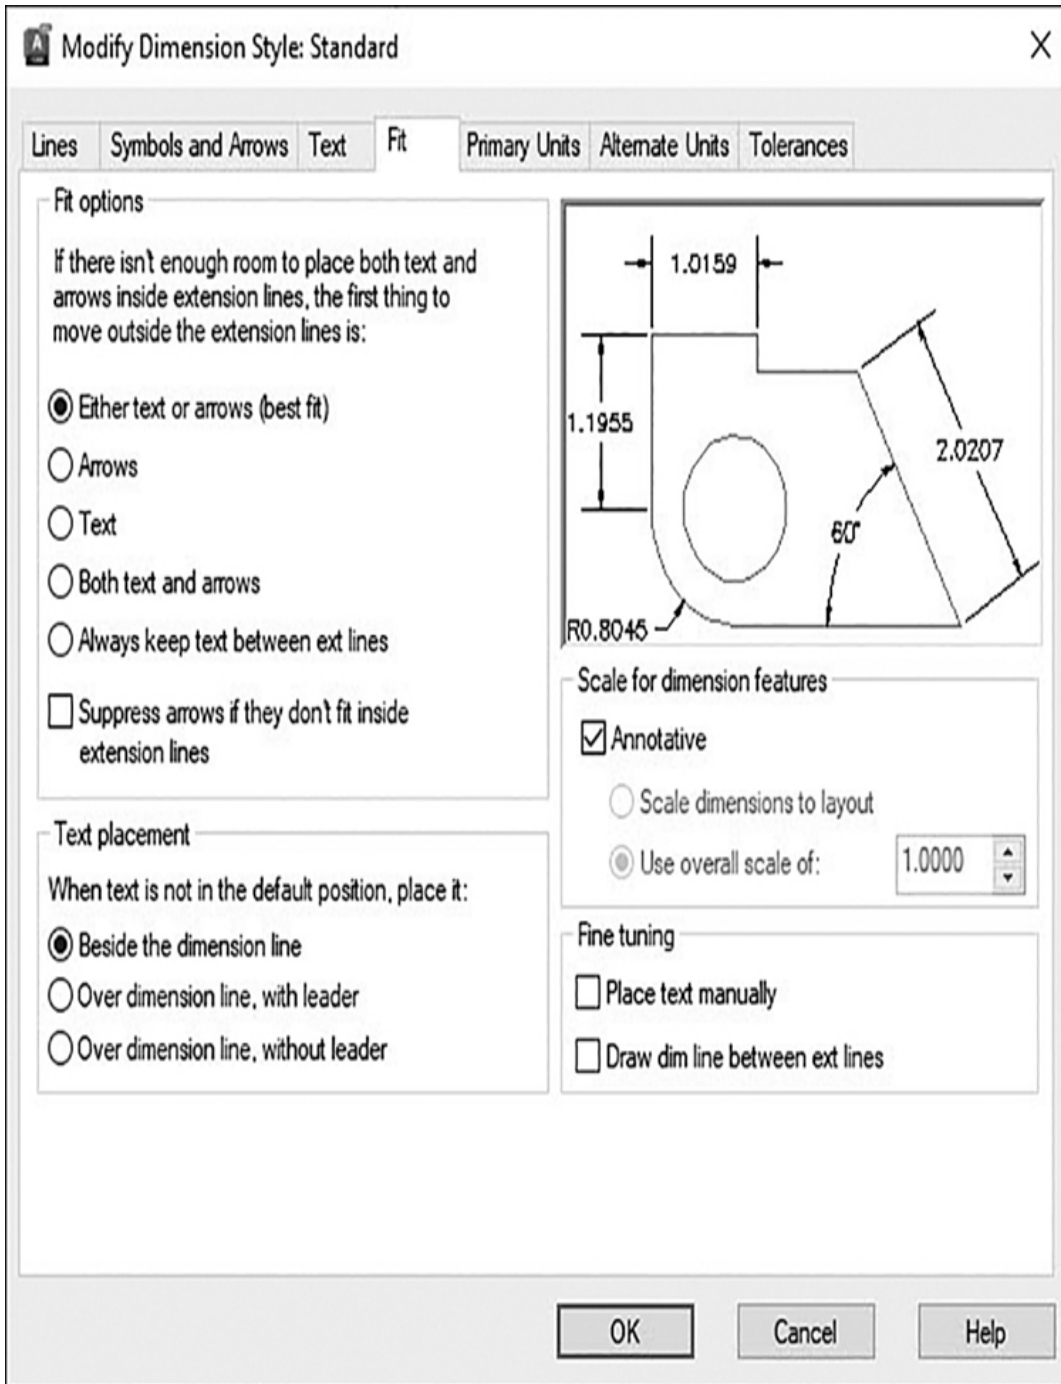

Figure 2-35
- 7 Choose the **Fit** tab and turn on the **Annotative** option (see Figure 2-35).